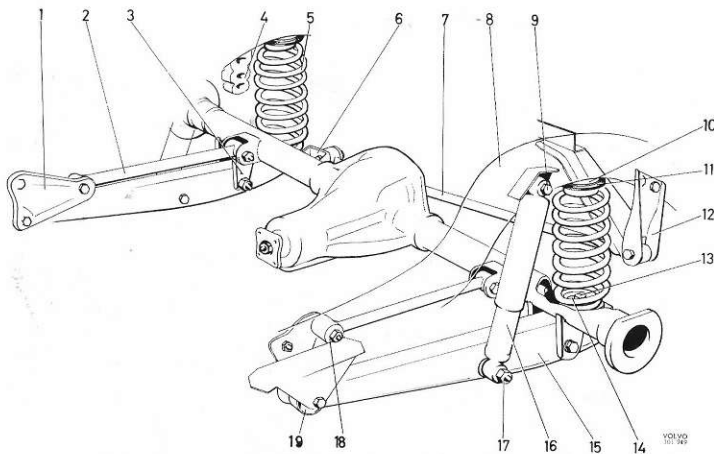

Fig. 7-5. Rear axle suspension
The upper ends of the rear springs (5, Fig. 7-5) are bolted to the rear side-members (8) and at the lower ends to the support arms (15) behind the rear axle. Rubber buffers (4) fitted on the rear side-members take up impacts from loading on the springs.
3. Remove the upper attachment (9, Fig. 7-5) for the shock absorber. Lower the jack carefully and remove the spring.
The rear axle is attached to the body through two flexibly mounted support arms (15, Fig. 7-5). Longitudinal forces are taken up by two support stays (2) and the lateral forces are absorbed by a track bar (7). The support arms are fore-mounted in rubber bushes (19). The support stays and track bar are attached to the rear axle frame through the rubber bushes.
3. Remove the screw on the support arm at the rear axle bracket (3, Fig. 7-5). Remove the front screw and take off the support arm.
2. Remove the nuts at both brackets 6 and 12, Fig. 7-5). Remove the track bar from the bracket mounted on the rear axle. Remove the screw at the bracket (12) attached to the frame and take off the track bar.